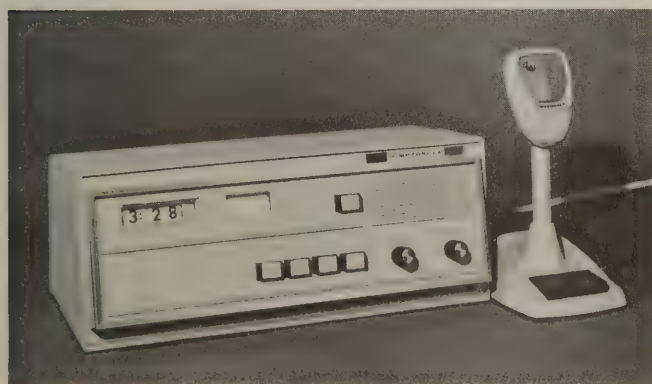

FIGURE 2. REMOTE CONTROL CONSOLE WITH MICROPHONE
D.C. remote control starts with a D.C. Remote Console. Figure 2 shows a Remote Control Console with microphone. The console contains the necessary controls and circuits to perform the desired functions. In addition to these controls and circuits, the console contains the power supply used to generate the necessary line current, plus audio circuitry for the conveying of intelligence.